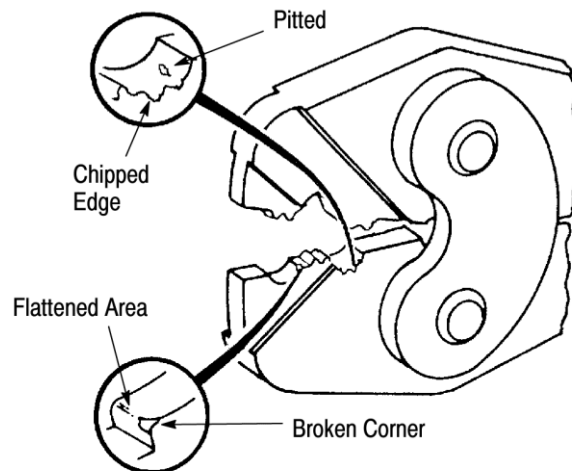

Figure 5
3. Inspect head assembly for worn, cracked, or broken jaws. Refer to Figure 5. If damage is evident, return the tool to TE for evaluation and repair. See Section 6, REPLACEMENT AND REPAIR.